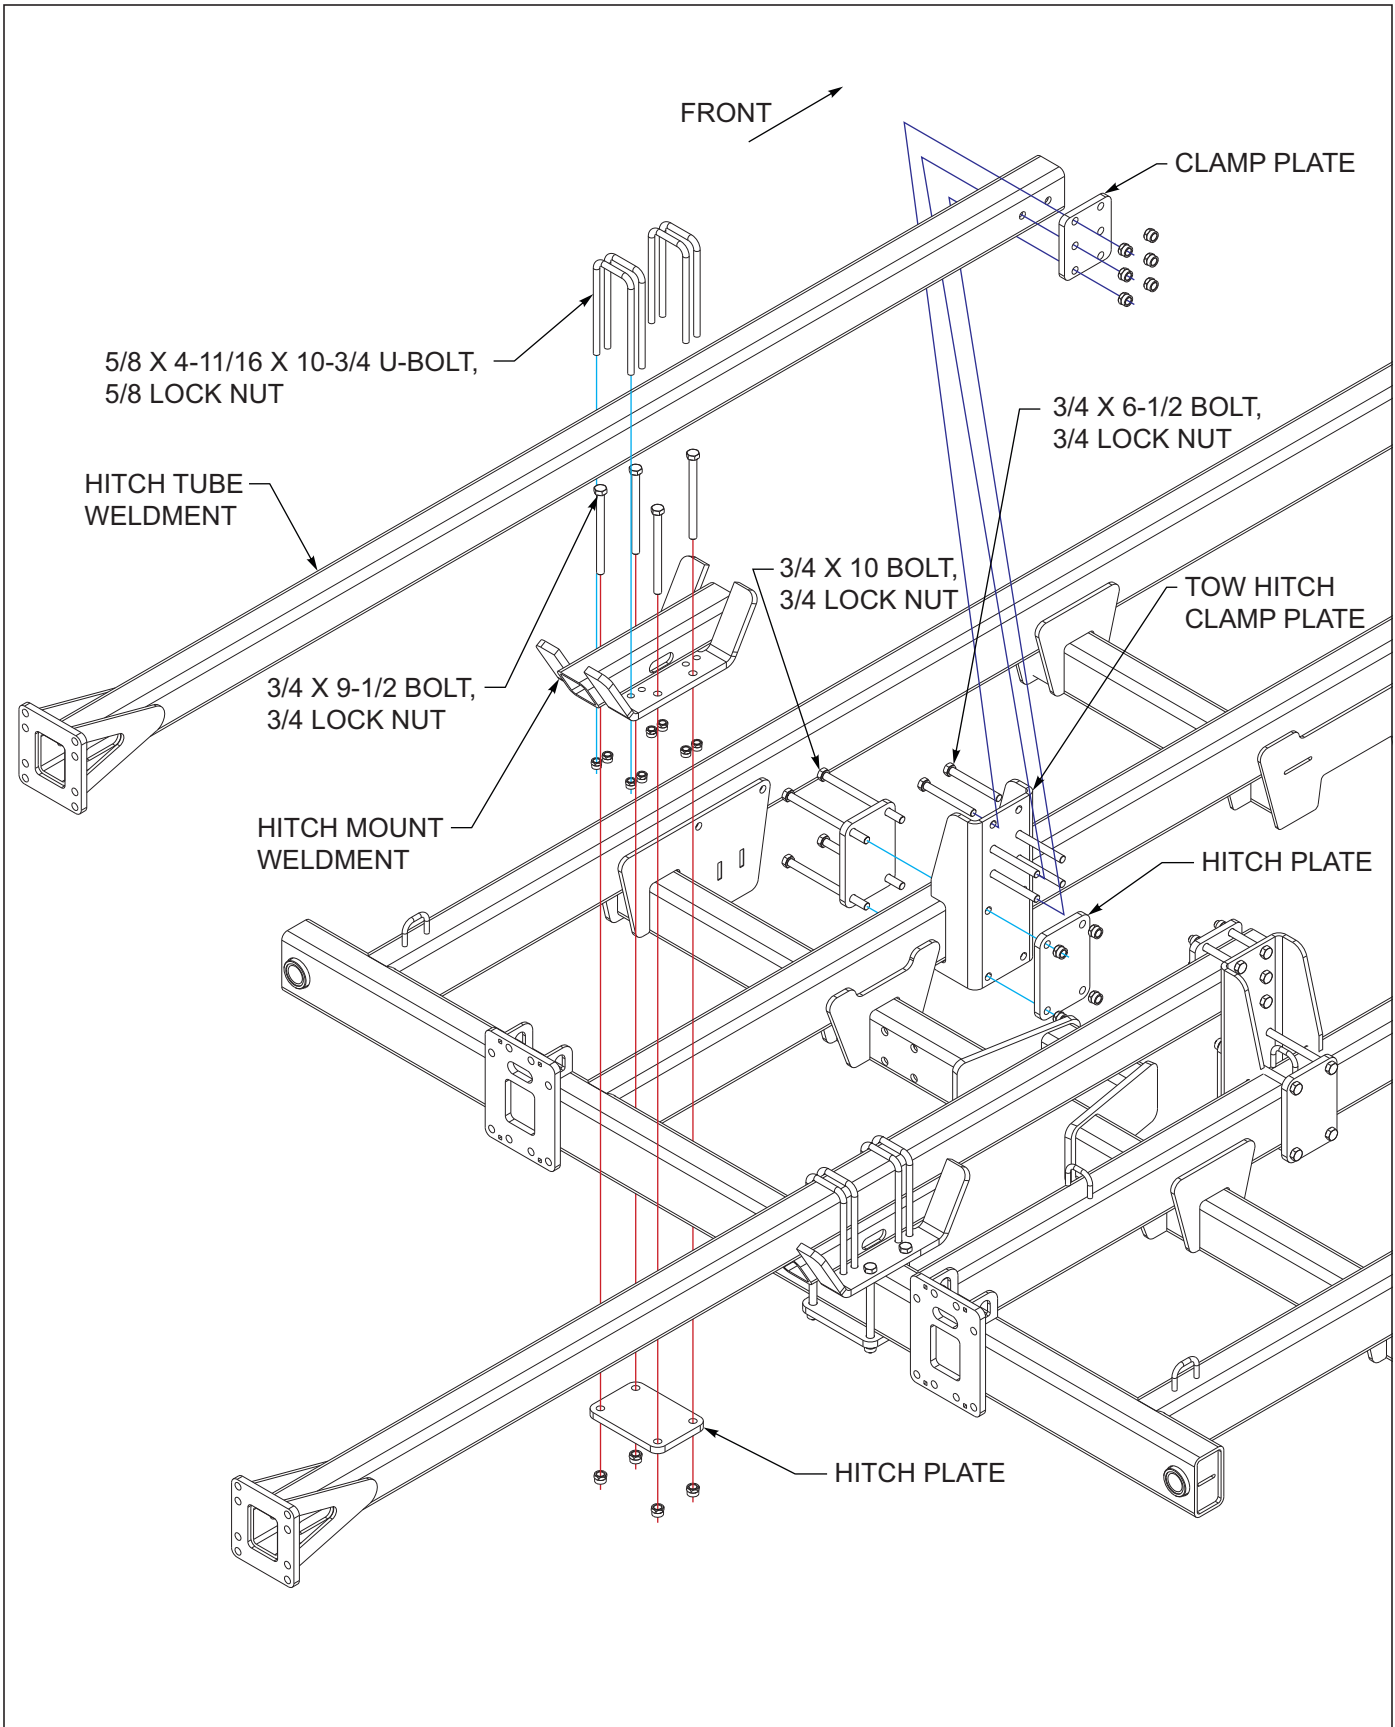

Figure 3-47: Rear Tow Hitch Installation (1 of 2)
1. Attach hitch mount weldments to top side of rear center frame tube, hitch plates below center frame tube with 3/4 x 9-1/2 bolts and 3/4 lock nuts See Figures 3-47.